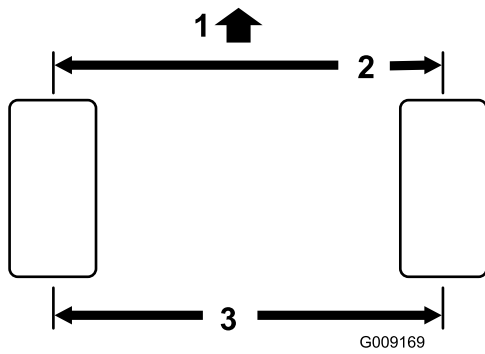

Figure 44
1. Measure center-to-center distance (at axle height) at front and rear of steering tires (Figure 44). The measurement must be $.12 \pm .12$ inch greater at the front of the tire than at the rear.